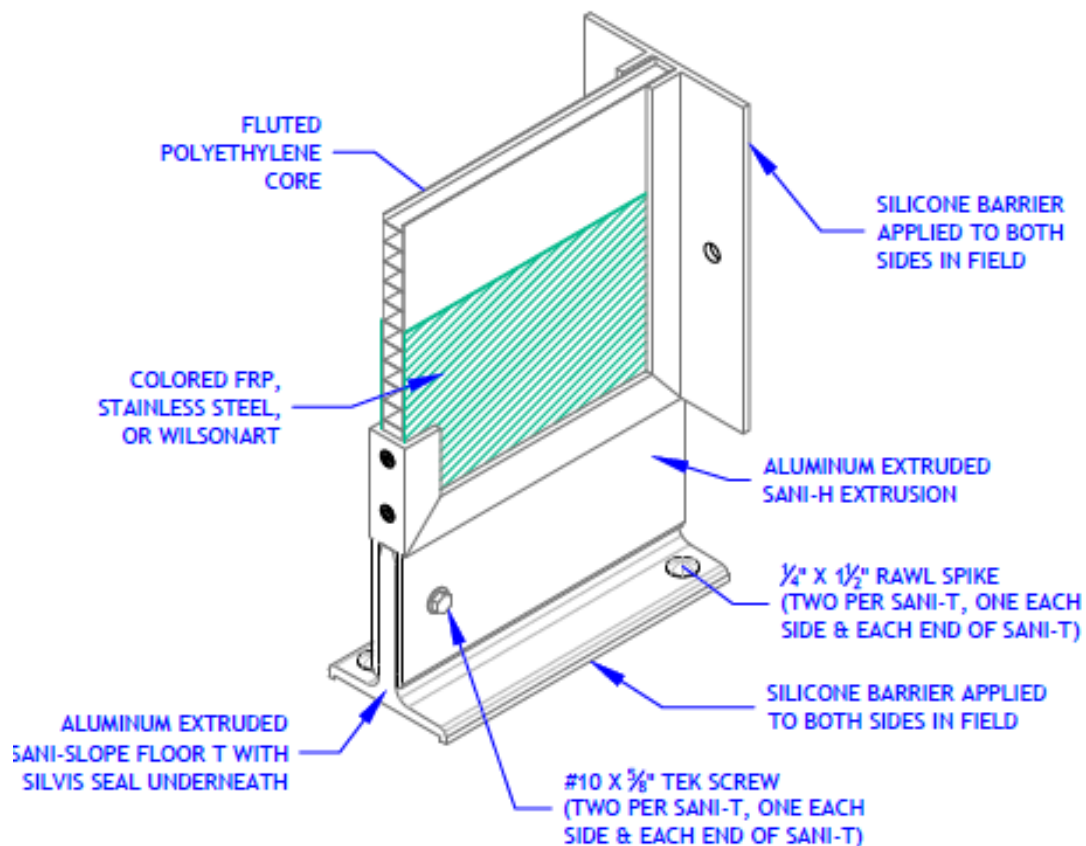

Figure G.1
3. Repeat steps F-1 and F-3 for all hole locations (Figure G.1).